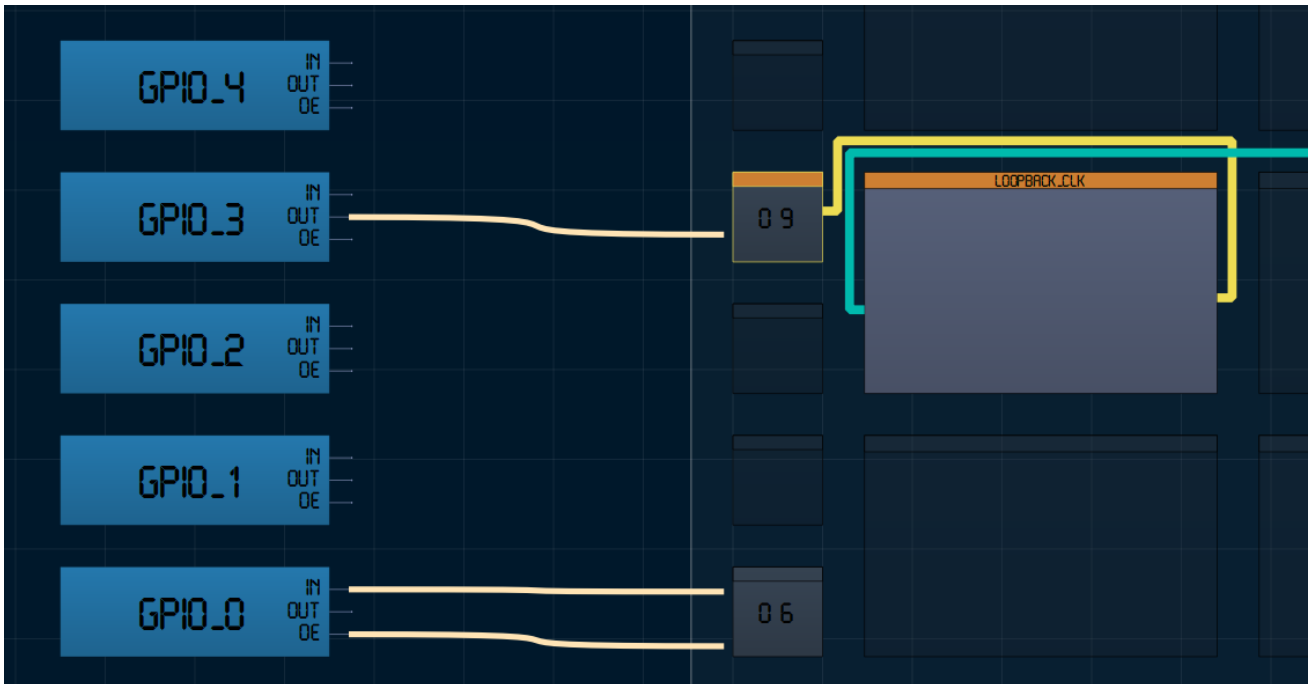

Figure 2: Floorplan & CLB Utilization
8. Now click on the Floorplan tab and see the CLB utilization (Figure 2). Press the Ctrl and the mouse wheel to zoom-in. Confirm that the IOs selected in the IO Planner are shown in the floorplan.